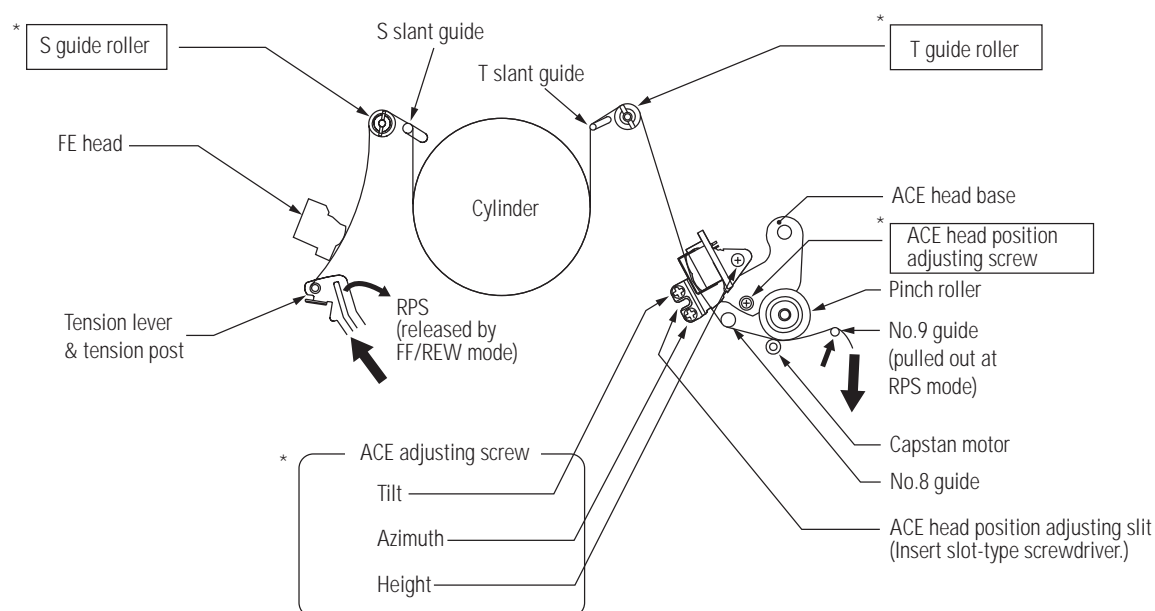

Fig. 8-2 Tape Path System
The tape come out from the supply reel (S) of the video cassette runs through paths shown in Figs. 8-2 and 8-3, and is taken up by the take-up (T) reel. (S stands for the supply reel, and T for the take-up reel, hereafter.)